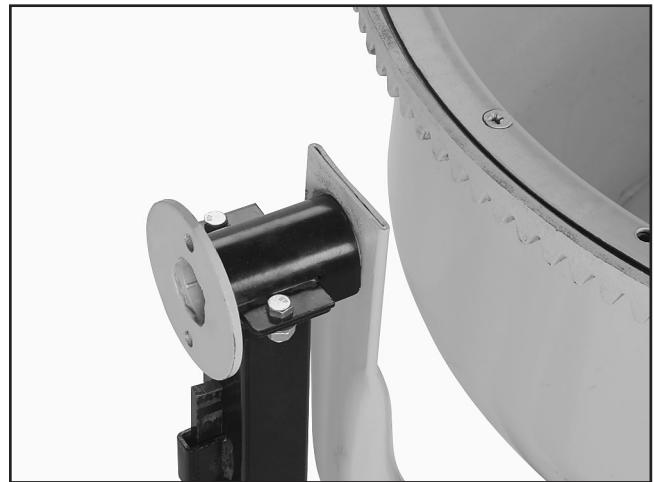

Figure 9. Upper bracket installed.
- Place the upper bracket over the pivot shaft, and attach the upper bracket to the frame with two M8-1.25 x 20 hex bolts on one side and two 8mm flat washers, lock washers, and hex nuts on the other side (**Figure 9**).